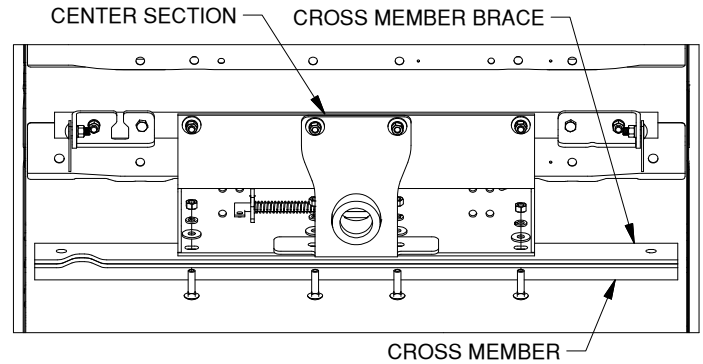

Figure G2: Looking up under truck bed (frame not shown).
3. **Attach front cross members.** Slide the front cross member brace and the front cross member rearward against the center section. Line up the square holes in the cross members with the slots in the center section. Secure the cross member parts to the center section using the 1/2" x 2" carriage bolts, flat washers, lock washers, and nuts, as shown in Figure G2.